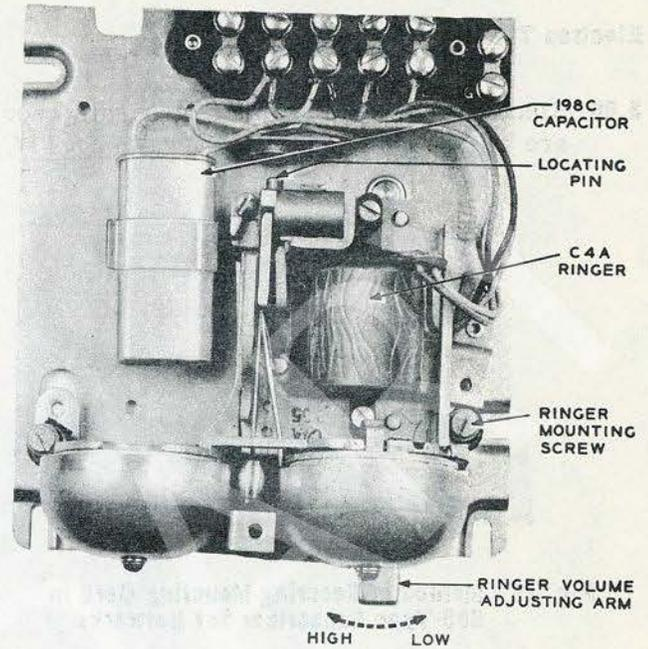

Fig. 14 – Assembly of C4A Ringer in 685-, 6-, 7-, and 8-Type Subscriber Sets, Front View
- 3.01** The C4A ringer is provided in 685-, 6-, 7-, 8-, and 690-type subscriber sets (Fig. 14).